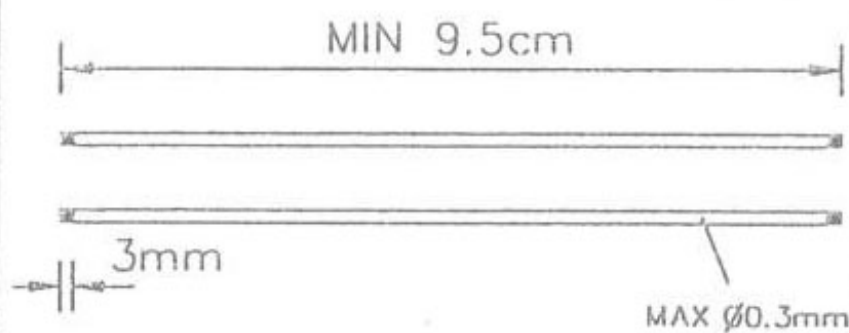

FIG.1.1
- Cut two 9.5cm pieces of the supplied copper wire, see Fig. 1.1.